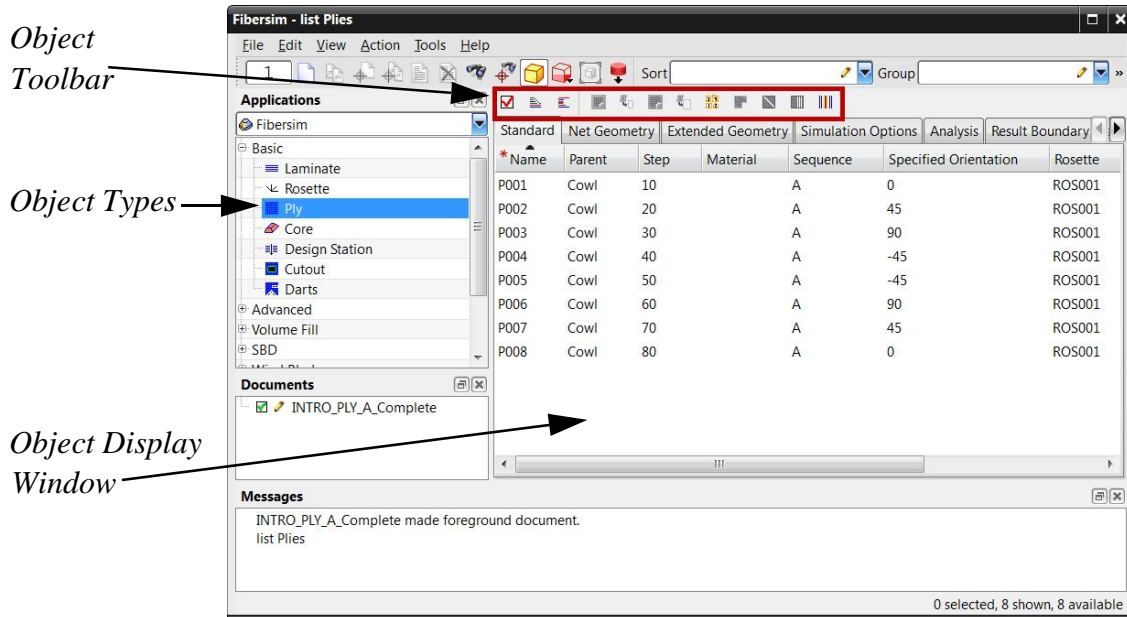

Figure 1–4
When an object is selected from the Application Tree, the Fibersim user interface updates. Based on what is selected, it displays commands that can be performed with the selected objects as shown in Figure 1–4.
- If you want to sort the list based on a column, click on the header of the column. A small arrow appears at the top of the column header to represent ascending/descending order as shown in Figure 1–5. Click on the header again to toggle between ascending and descending order.